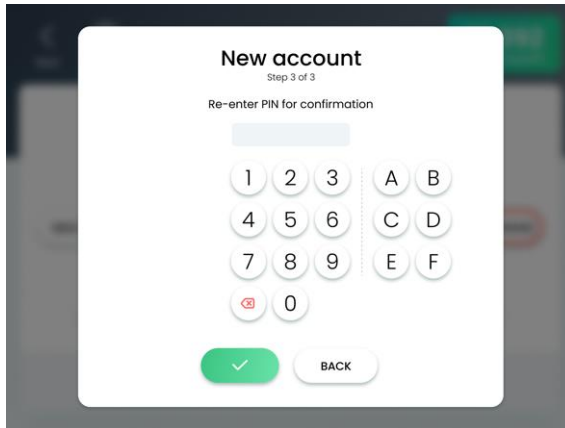

Figure 6-5. New Account (Step 3 of 3) Screen
7. Press the **Confirm** button; the New Account (Step 2 of 3) screen appears, as shown in Figure 6-5.